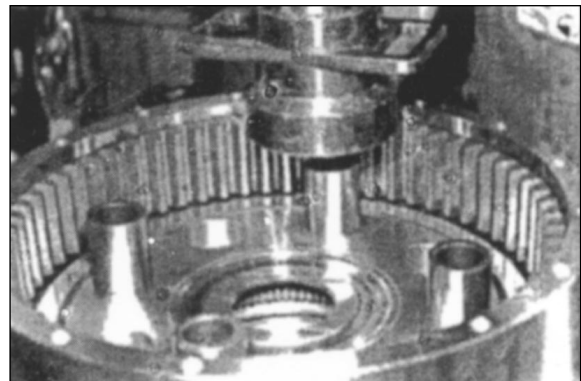

Figure 101
10. Install four bushings using a press. Figure 101.